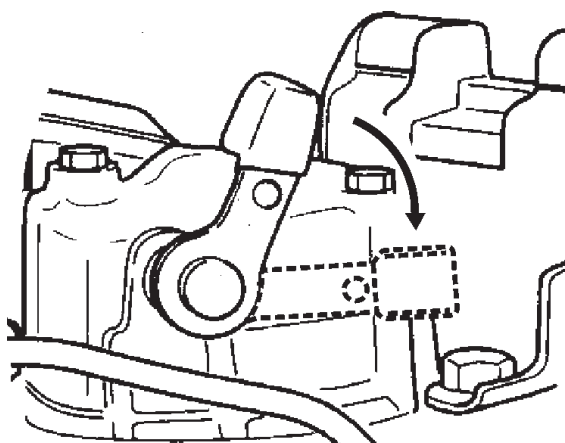

Figure 15. Decompression Lever
4. Push the decompression lever (Figure 15) and release.